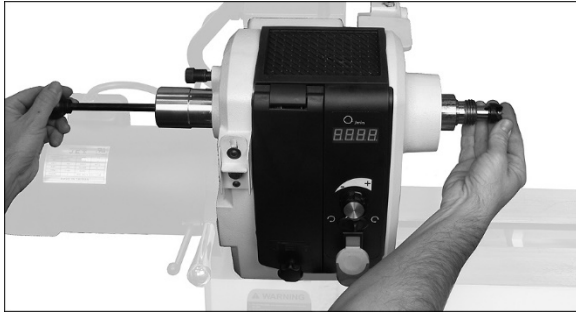

Figure 7-8: removing spur center
3. To remove a center, first remove workpiece from lathe. Insert knockout rod (Figure 7-8)